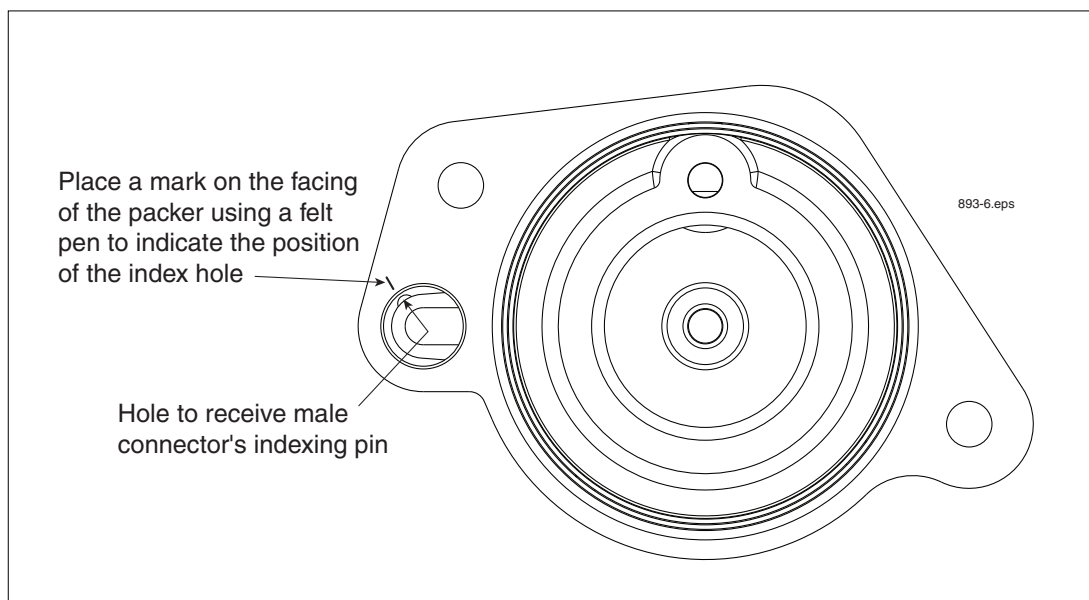

Figure 42. Male Connector Index Hole In Base Of Socket
11. Place a mark on the facing of the Packer using a felt pen to indicate the position of the index hole (see Figure 42).
16. The indexing pin on the back of the connector must seat in the index hole in the base of the male connector's socket (see Figure 42) for the connector to be correctly oriented relative to the female connector.